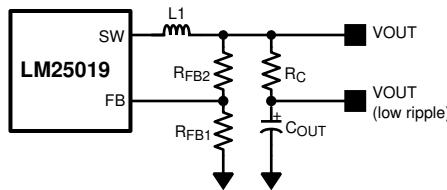

图 7-2. Low Ripple Output Configuration
This regulator regulates the output voltage based on ripple voltage at the feedback input, requiring a minimum amount of ESR for the output capacitor (C_{OUT}). A minimum of 25 mV of ripple voltage at the feedback pin (FB) is required for the LM25019. In cases where the capacitor ESR is too small, additional series resistance can be required (R_C in 图 7-2).
For applications where lower output voltage ripple is required the output can be taken directly from a low ESR output capacitor, as shown in 图 7-2. However, R_C slightly degrades the load regulation.